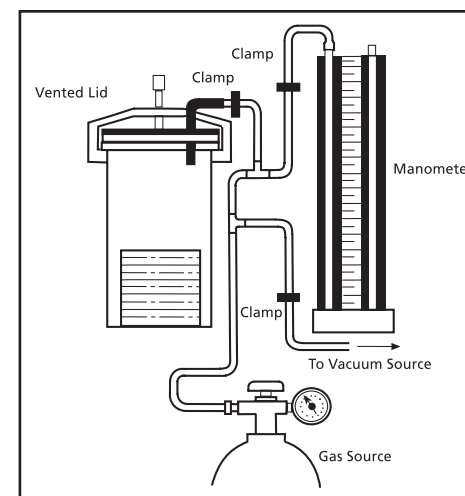

Figure 2
4. Attach a short rubber tube on the vent of the GasPak 100 lid or the GasPak 150 jar to multiple stopcock or plug (Fig. 2). Outlets are needed for a manometer, gas source (hydrogen, nitrogen, methane, carbon dioxide, or a mixture of hydrogen plus carbon dioxide), and a vacuum source.